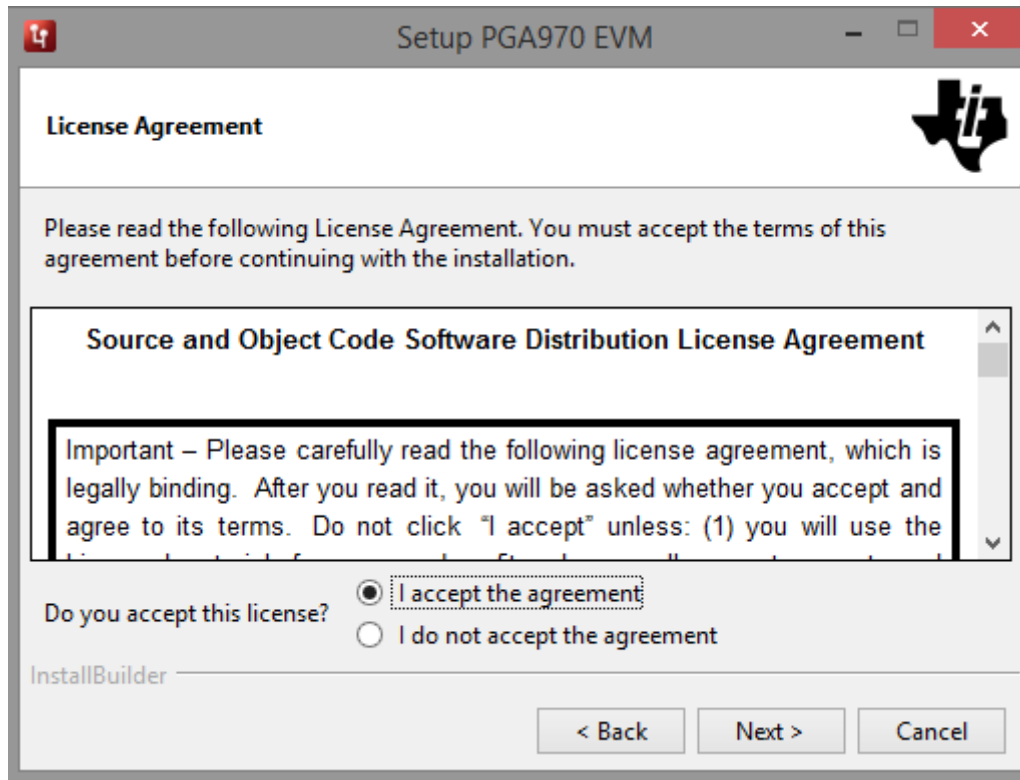

Figure 1-3. License Agreement – GUI
2. The License Agreement for PGA970 GUI appears as shown in Figure 1-3. Read through the agreement carefully, enable the “I accept the agreement” option and click the Next» button.